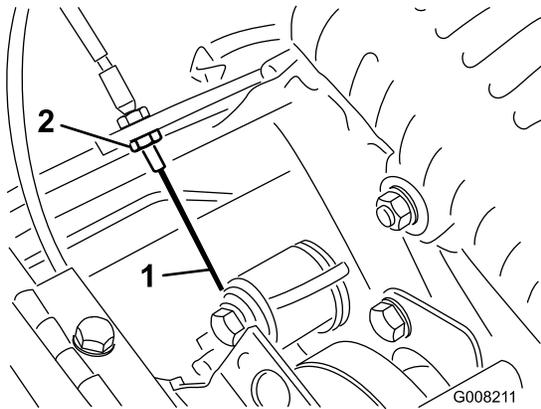

Figure 42
3. To increase the cable tension, loosen the front cable jam nut and tighten the back cable jam nut (Figure 42) until a force of 3 to 4 kg (7 to 9 lb) is required to engage the traction control.